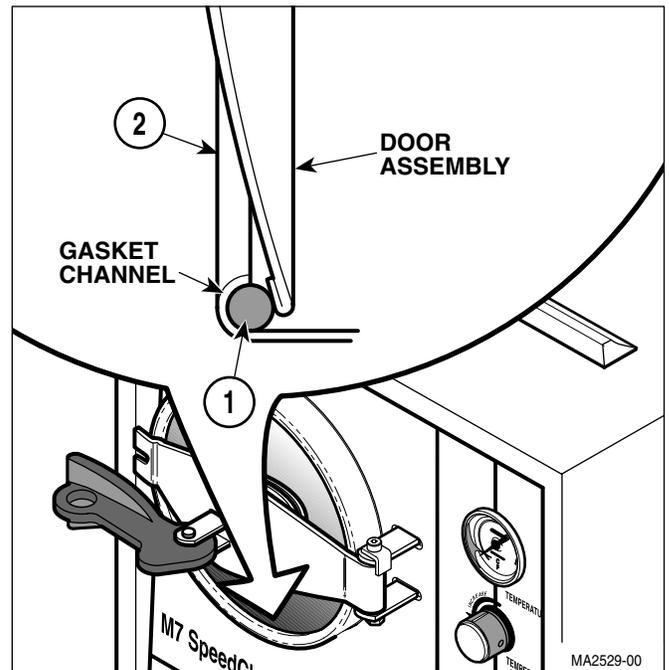

Figure 4-22. Door Gasket Removal / Installation
- (1) Open the door assembly.
- (2) Pry door gasket (1, Figure 4-22) out of gasket channel of chamber (2).